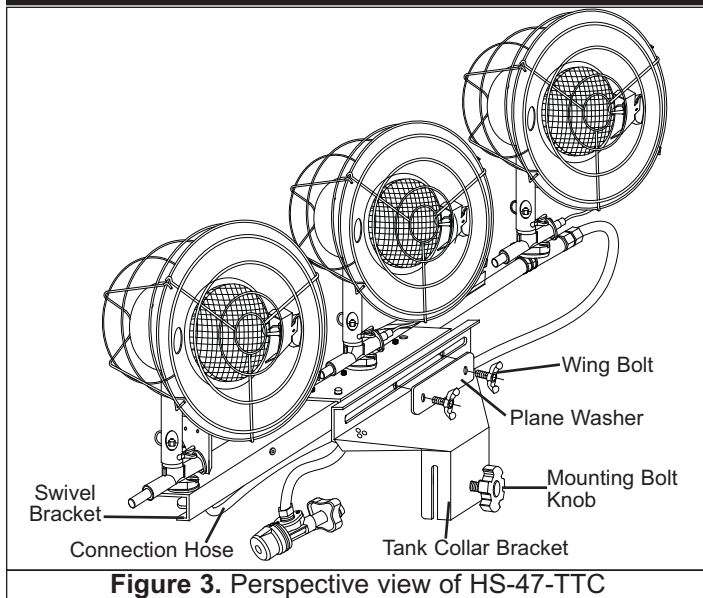

Figure 3. Perspective view of HS-47-TTC
3. Place the Plain Washer on the Tank Collar Bracket and then, insert the support bolt (see Figure 3 on Page 4).